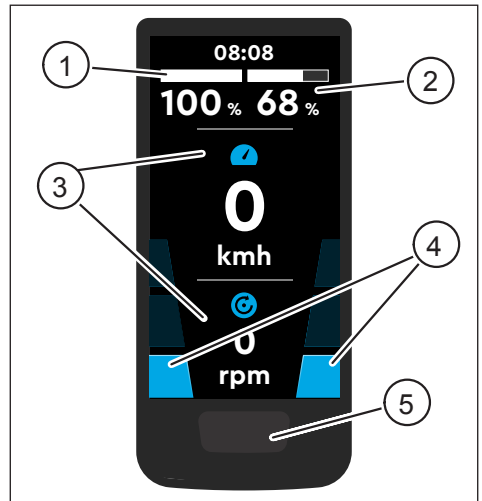
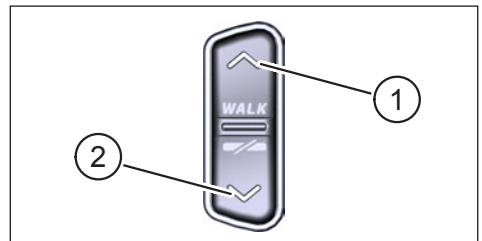

Fig. 1: Operation and indicator components on Display
Fig. 2: Operation on the Remote
Pos. in Fig. 1	Description
Pos. in Fig. 2	Description
- ▶ Press and hold the button on the Display (pos. 5 in Fig. 1) and the DOWN button on the Remote (pos. 2 in Fig. 2) for at least 5 seconds.
- ▶ With a **double click** press on the button on the Display (pos. 5 in Fig. 1) you switch to the next screen view.